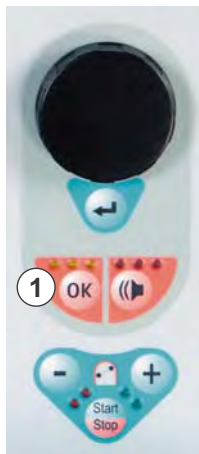

Fig. 9-5 *OK* key with yellow LEDs
This kind of warning is also indicated by the yellow LEDs lighting above the *OK* key (Fig. 9-5, ①).